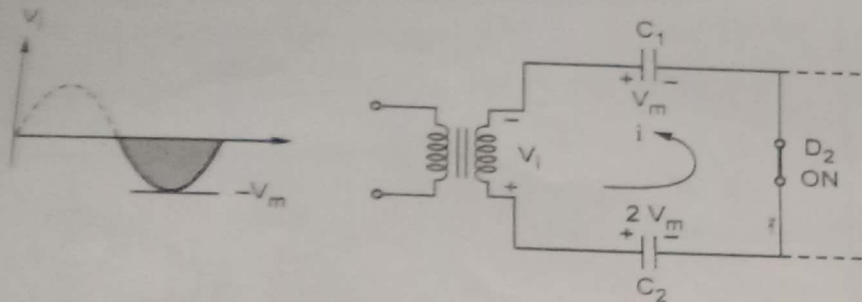

Fig. Q.53.3
- Hence the capacitor C_2 charges to $2V_m$ with the polarities as shown in the Fig. Q.53.3.